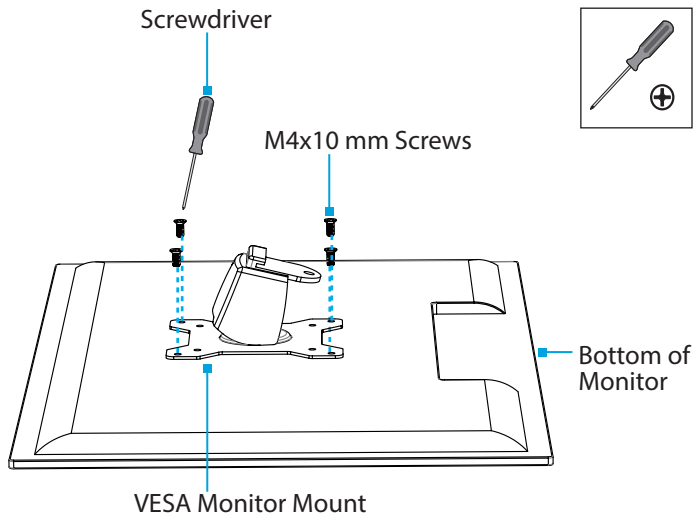

Figure 19
4. Insert the **M4 x 10 mm Screws** (x 4) through the **VESA Monitor Mount** and into the **Monitor** and tighten, using a **Phillips Head Screwdriver**. (Figure 19)